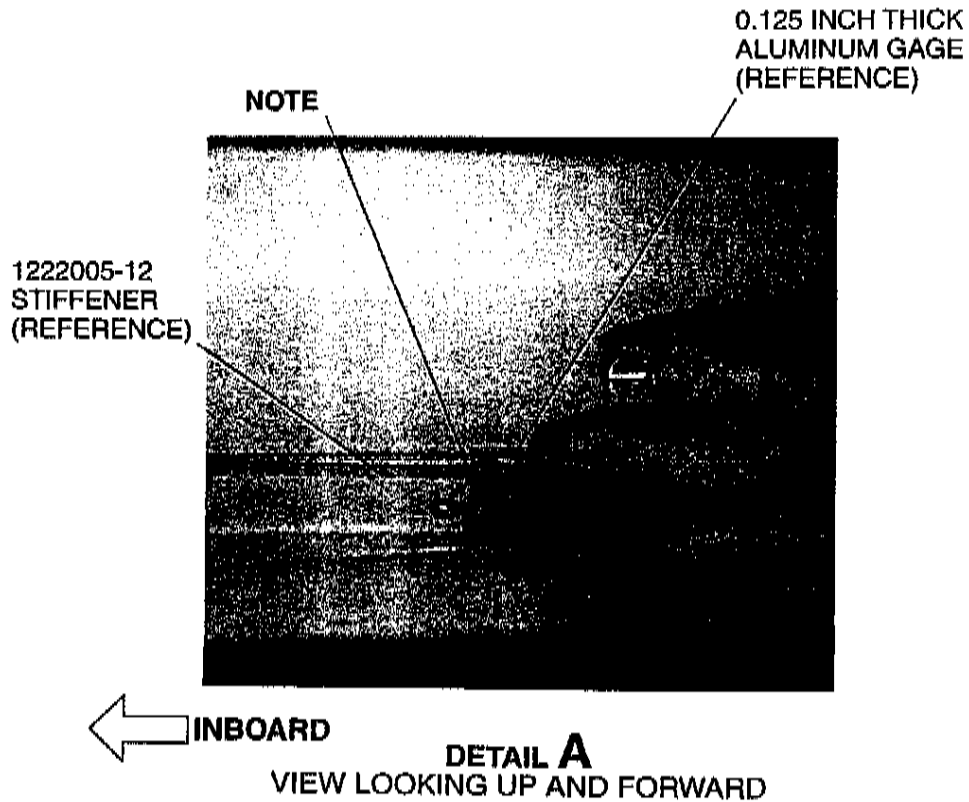

Figure 1. Wing Spar Inspection (Sheet 1)
- C. (Refer to Figure 1, Sheet 1, Detail A) Locate the end of the 1222005-12 Stiffener by looking up through the aileron bellcrank access hole.
- (1) If the stiffener is the same thickness as the feeler gauge:
- (2) If the stiffener is thinner than the 0.125 inch feeler gauge, further disposition will be coordinated through Cessna Propeller Aircraft Product Support.